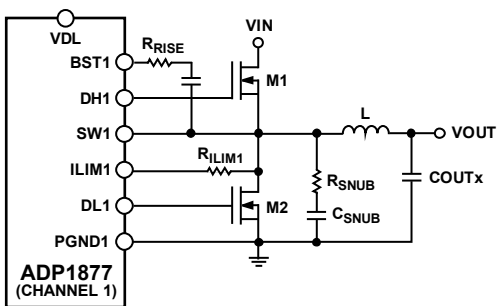

Figure 35. Application Circuit with a Snubber
In any high speed step-down regulator, high frequency noise (generally in the range of 50 MHz to 100 MHz) and voltage overshoot are always present at the gate, the switch node (SW), and the drains of the external MOSFETs. The high frequency noise and overshoot are caused by the parasitic capacitance,  $C_{GD}$ , of the external MOSFET and the parasitic inductance of the gate trace and the packages of the MOSFETs. When the high current is switched, electromagnetic interference (EMI) is generated, which can affect the operation of the surrounding circuits. To reduce voltage ringing and noise, it is required to add an RC snubber between SW and PGND for applications with more than 10 A output current, as illustrated in Figure 35. Snubbers may also be needed in applications where the duty cycle in one of the channels is higher than or equal to 50%. In most applications,  $R_{SNUB}$  is typically 2  $\Omega$  to 4  $\Omega$ , and  $C_{SNUB}$  typically 1.2 nF to 3 nF.
In most applications, a component size 0805 for  $R_{SNUB}$  is sufficient. However, the use of an RC snubber reduces the overall efficiency, generally by an amount in the range of 0.1% to 0.5%. The RC snubber cannot reduce the voltage overshoot. A resistor, shown as  $R_{RISE}$  in Figure 35, at the BSTx pin helps to reduce overshoot and is generally between 2  $\Omega$  and 4  $\Omega$ . Adding a resistor in series, typically between 2  $\Omega$  and 4  $\Omega$ , with the gate driver also helps to reduce overshoot. If a gate resistor is added, then  $R_{RISE}$  is not needed.